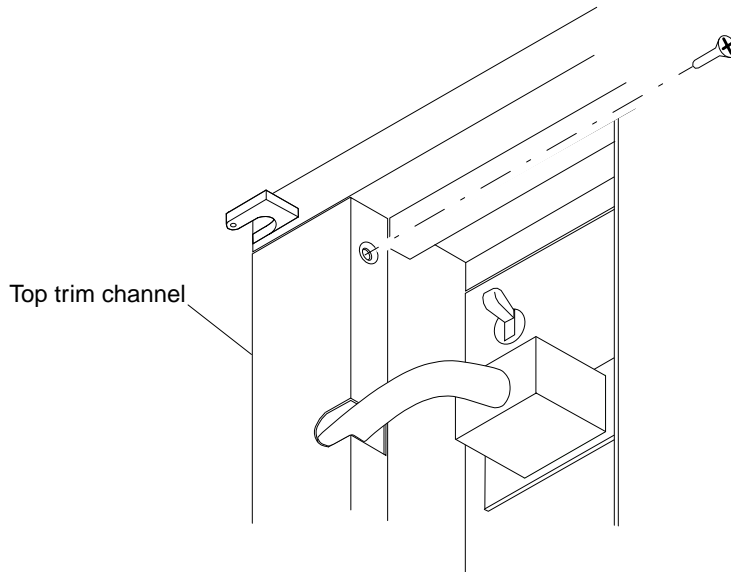

FIGURE 17 Top Trim Channel Installation
11. **Install the top left trim channel in the front of the chassis (FIGURE 17).**